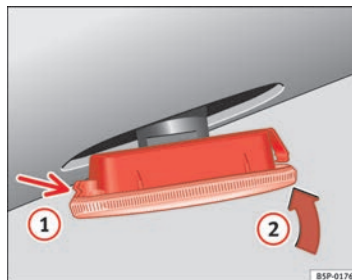

Fig. 149 Side turn signals
- First fit the turn signal in the opening in the chassis, fastening the tabs ① ⇒ page 222, fig. 149, and then fit in the bulb as shown by the arrow ② ⇒ page 222, fig. 149. ■